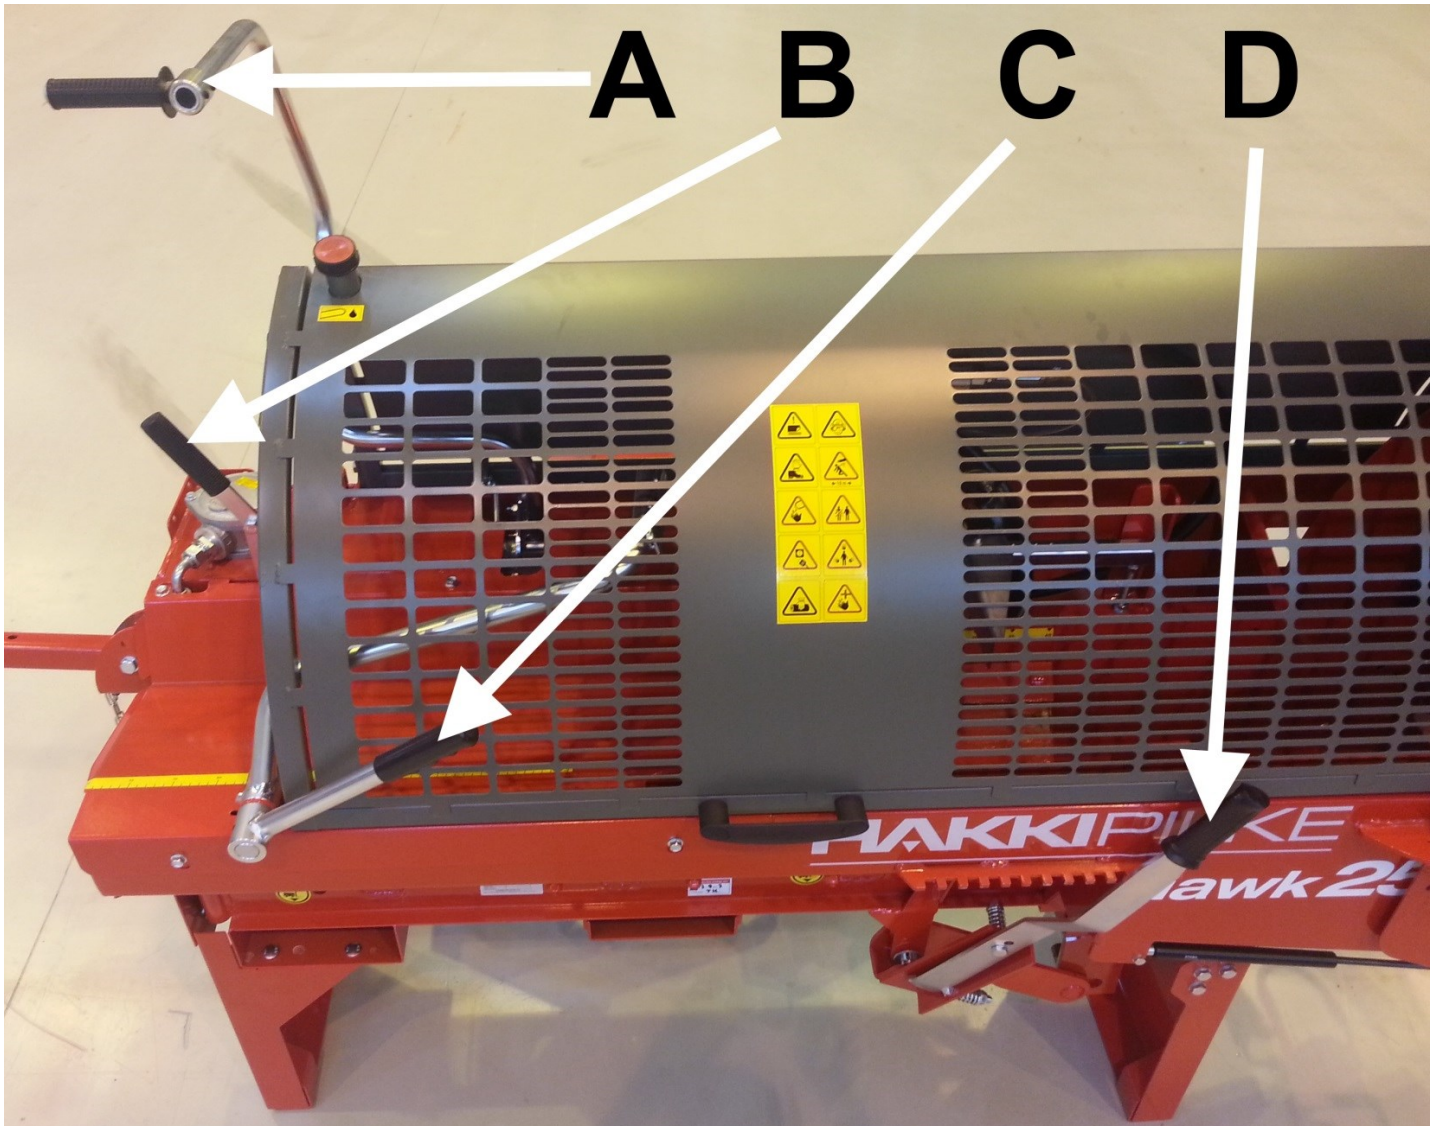

Figure 12. The machine's controls.
Names and functions of the controls in Figure 12:
6. Activate the splitting motion by lowering the saw bar fully to the lowered position using the machine lever A (Figure 12). Then, raise the lever back to the top position. The splitting motion must be normal (the bar pushing the log being split moves fully to the front position close to the splitting knife and returns to the starting position automatically).
7. Start the splitting motion using lever B (Figure 12), by turning the lever to the right. The splitting motion must be normal, as described in item 6.
10. Ensure that the splitting cylinder returns to its initial position (even in the middle of the splitting motion) by pushing the lever B in Figure 12 to the left.
4. Cut the log by pulling the lever A (Figure 12) down, which activates the saw chain, and guide the saw bar into the lower position by continuing to pull the lever A (Figure 12) down.